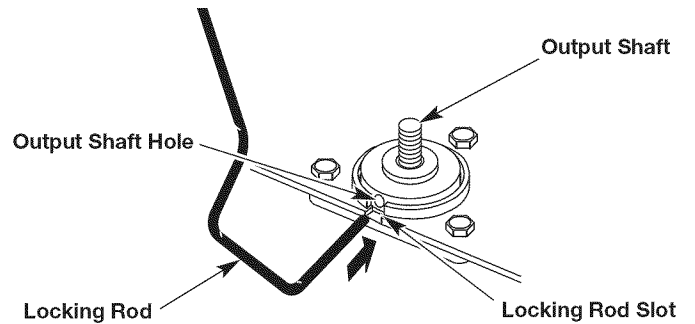

Fig. 6
1. Align the output shaft hole with the locking rod slot. Insert the locking rod through the locking rod slot and into the output shaft hole (Fig. 6).
6. Align the output shaft hole with the locking rod slot. Insert the locking rod through the locking rod slot and into the output shaft hole (Fig. 6).